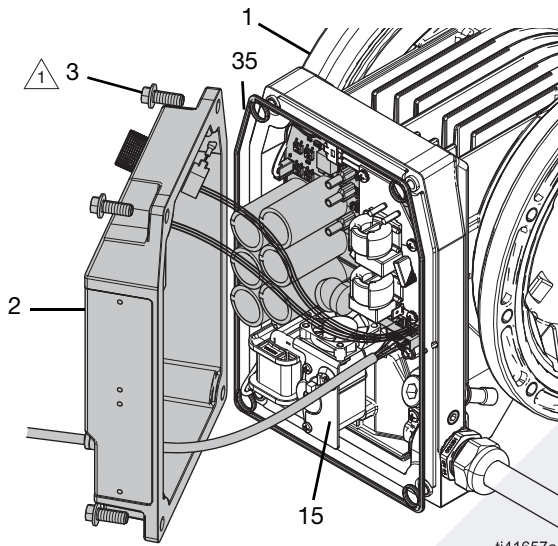

FIG. 2: Control Cover
See FIG. 2.
2. Remove the fasteners (3) from the control cover (2).
3. Carefully remove the control cover (2):
- a. Carefully tilt the control cover (2) away from the control board (15). See FIG. 2.
- b. Disconnect all wires from the control cover (2) to the control board (15). See **Electrical Schematics**, page 34.
3. Install the control cover (2):
- a. Carefully hold the control cover (2) in place at an angle near the control board (15). See FIG. 2.
- c. Connect wires from the control cover (2) to the control board (15). See **Electrical Schematics**, page 34.